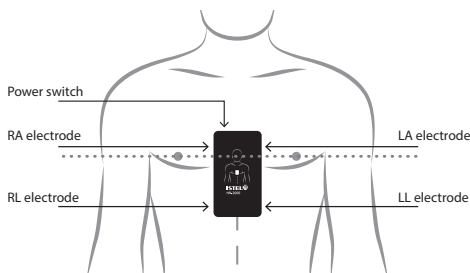
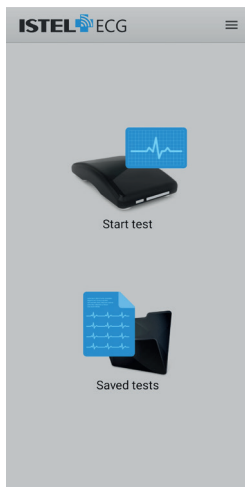

Fig. 3 Method of applying the device
Fig. 18
LA, LL, RA, RL electrodes: applied to the body, at the height of the sternum (see Fig. 3).
1. Apply the device along the central part of the chest, so as to locate the two top electrodes (RA and LA) just above the nipple line (Fig. 3)
To take an ECG test, select “Start test” from the app (Fig. 18), then place the switched-on device on your chest as shown in Fig. 3.